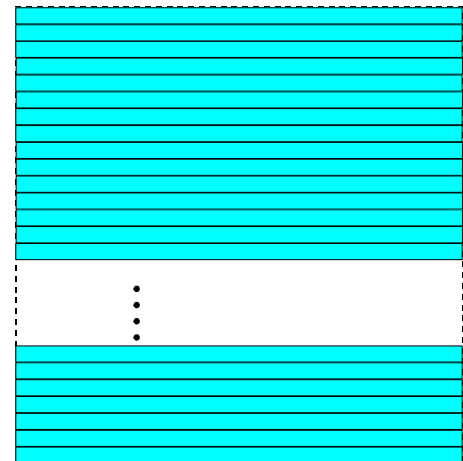

Fig. 124: Decimation Disabled
- 1: the complete frame will be transmitted out of the camera (vertical decimation is disabled); see Figure 124. This is valid for mono and color cameras.